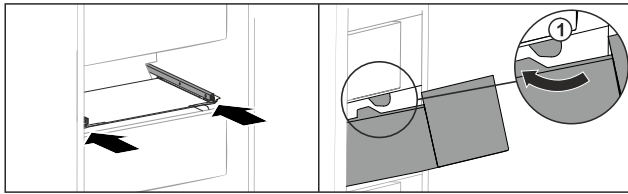

Fig. 238
- ▶ Guide drawer around the stoppers Fig. 238 (1).